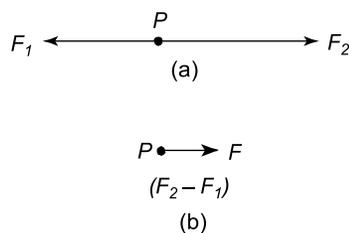

Figure 4.6
- (b) For forces acting in opposite directions along the same line of action, the resultant force is the arithmetic difference between the two forces. Forces of  $F_1$  and  $F_2$  acting at point  $P$  as shown in Figure 4.6(a) have exactly the same effect on point  $P$  as
force  $F$  shown in Figure 4.6(b), where  $F = F_2 - F_1$  and acts in the direction of  $F_2$ , since  $F_2$  is greater than  $F_1$ . Thus  $F$  is the resultant of  $F_1$  and  $F_2$